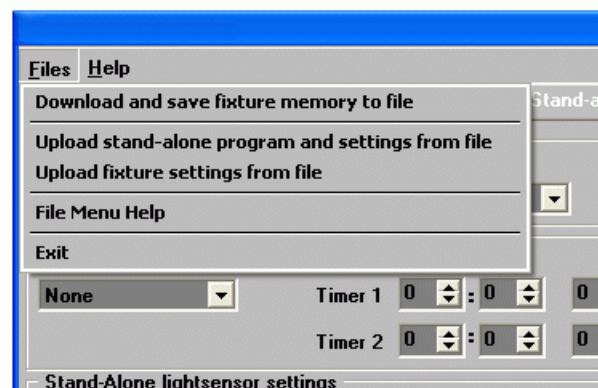

Figure 20: Managing fixture settings and stand-alone programs as files
2. Download and save this fixture's memory (program and settings) to your PC using MUM's Files menu (see Figure 20), and then